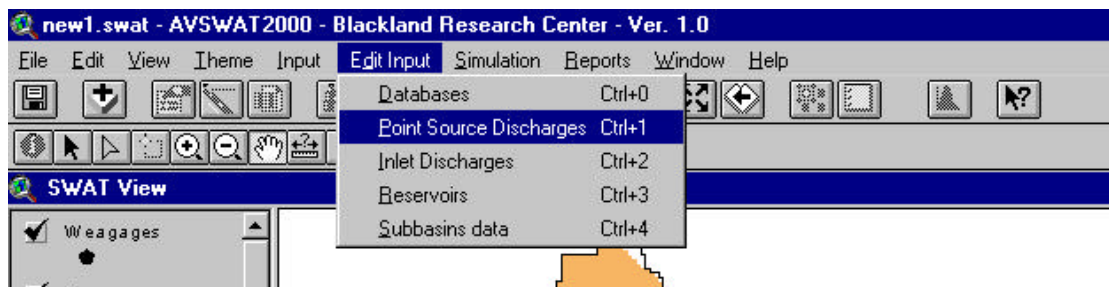

Figure 9.2
1. Select **Point Source Discharges** from the **Edit Input** menu (or press Ctrl+1) (Figure 9.2).